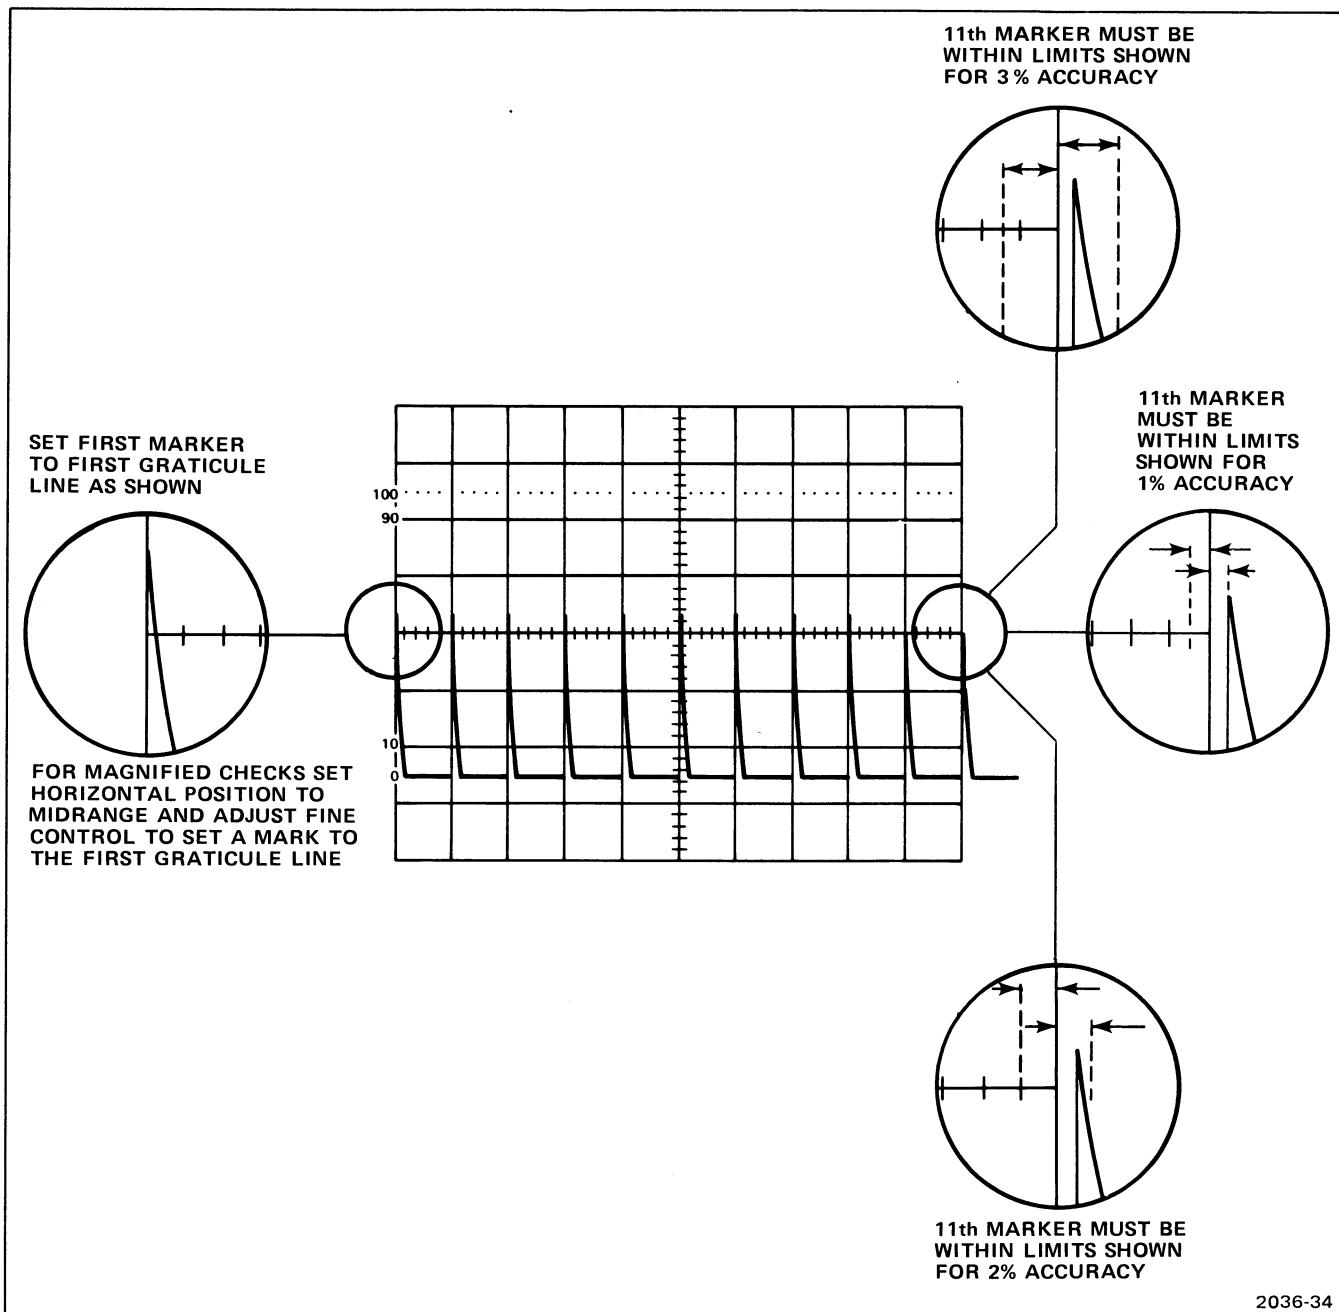

Fig. 3-5. Timing accuracies.
Unless otherwise stated, set POSITION and FINE (HORIZ) controls so the first time marker coincides with the first graticule line and check the error at the last graticule line (see Figure 3-5).
b. CHECK—Timing accuracy is within 1% at TIME/DIV settings from .01 μ s to 5 ms (see Figure 3-5).
c. CHECK—Timing accuracy is within 2% at TIME/DIV settings from .05 μ s to .5 s (see Figure 3-5).
c. CHECK—Timing accuracy is within 3% at TIME/DIV settings from .05 μ s to .5 s (see Figure 3-5).
f. CHECK—Timing accuracy is within 2% at TIME/DIV settings from .01 μ s to .05 μ s (see Figure 3-5).